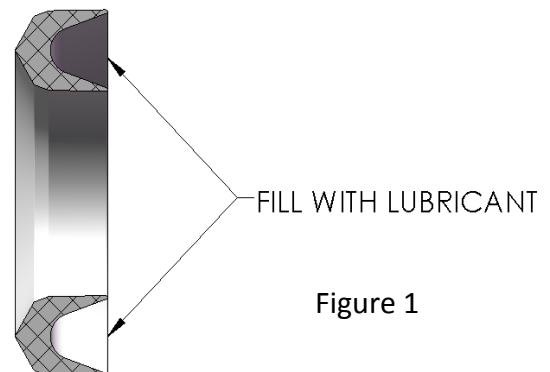

Figure 1
7. **Fill** the inside "V" of all V-packs [20F] stacking (3) together and install over Gland Stem [20M] placing on top of Male Adapter [20G] (as shown in Figure 1).